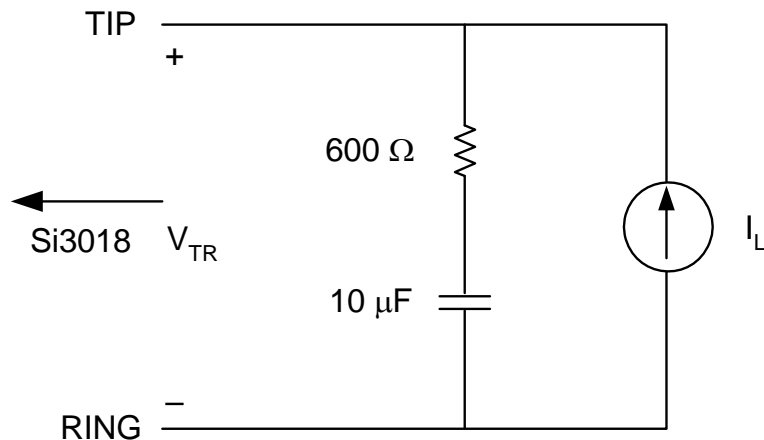

Figure 1. Test Circuit for Loop Characteristics
($V_D = 3.0$ to 3.6 V, $T_A = 0$ to 70 °C, see Figure 1)
2. Measured at TIP and RING with 600 Ω termination at 1 kHz, as shown in Figure 1.